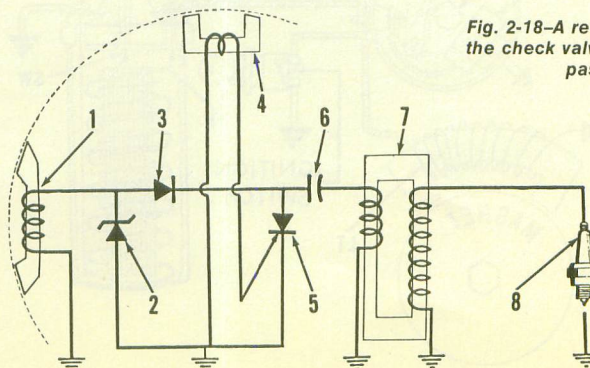

Fig. 2-16A-Schematic diagram of a typical single cylinder, capacitor discharge "Solid State" ignition system.
Fig. 2-16A shows a circuit diagram of a typical single cylinder, capacitor discharge, breakerless ignition system using permanent flywheel magnets as the energy source. The magnets pass by the input generating coil (1) to charge the capacitor (6), then by the trigger coil (4) to open the gate and permit the discharge pulse to enter the pulse transformer (7) and generate the spark which fires the plug (8). Only half of the generated current passes through diode (3) to charge the capacitor.